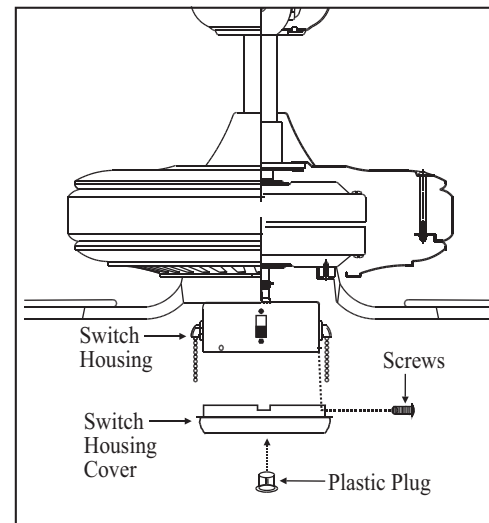

Figure 21
2. Attach the plastic plug to the switch housing. (Fig. 21)